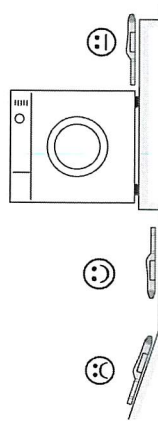

Figure 3: Appropriate and inappropriate locations for fitting
- ⓘ Do not place the device on sloping surfaces, ridges or pedestals (Figure 3).